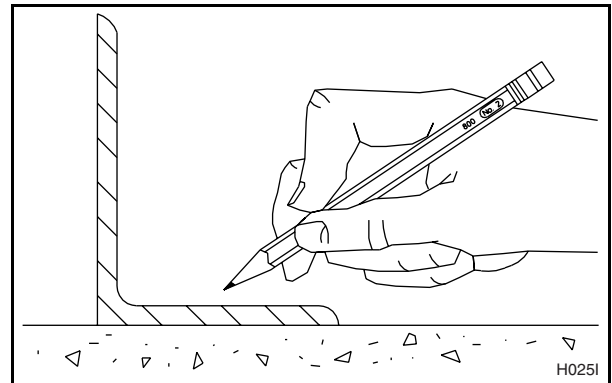

Figure 15
Use the following instructions and Figures 15 through 20 as a step-by-step guide to installation of the expansion bolts.
3. Use the base of the machine as a template by positioning the machine in the desired location and marking the pre-drilled mounting holes on the floor. See Figure 15.